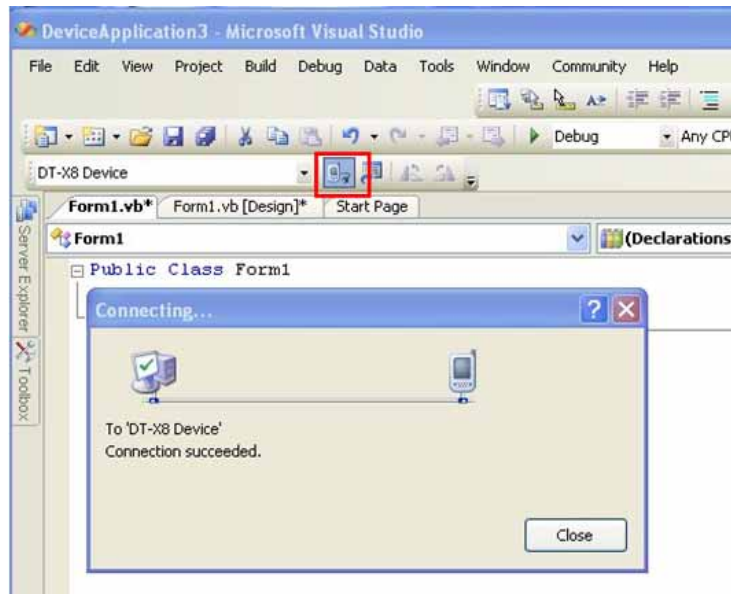

Figure 6.1
3. Click the button shown in the red box below (see Figure 6.1) to make sure that Visual Studio 2005 has recognized the connection established with the DT-X8 via ActiveSync. If it does not, start up ActiveSync again to establish connection.